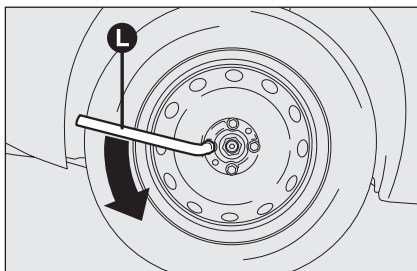

fig. 5
- ☐ using the wrench provided **L-fig. 5** loosen the fastening bolts by about one turn; if the car is fitted with alloy rims, shake the car to facilitate removing this rim from the wheel hub;